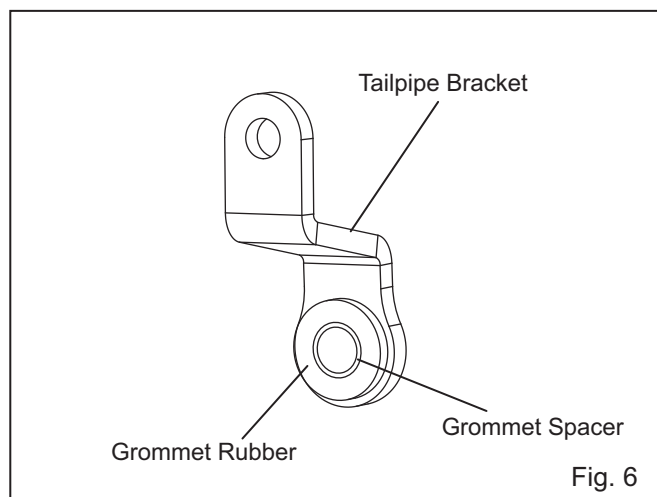

Fig. 6
- 7) Install Grommet Rubber and Grommet Spacer to Tailpipe Bracket (See Fig. 6).